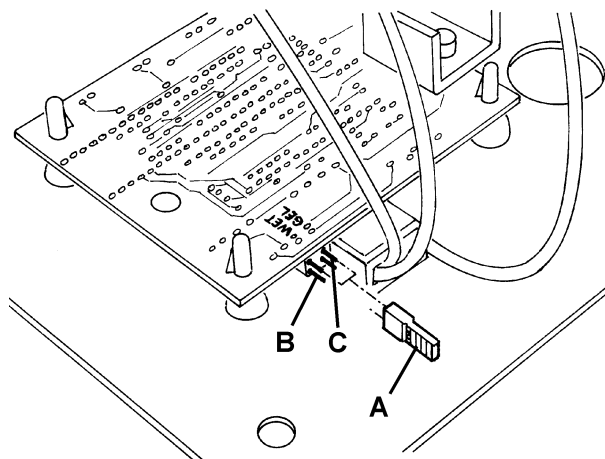

Figure 1
1. Turn the ignition key (61) to "0".
2. Open the hood (7).
4. Ensure that the battery connector (33) is disconnected.
5. Close the hood (7).
6. Remove the screws (68) and carefully remove the panel (69).
7. Install a jumper wire (A, Fig. 1) on WET connectors (B) for lead batteries, or on GEL connectors (C) for gel batteries.
8. Install the panel (69) and tighten the screws (68).
9. Connect the battery connector (33).